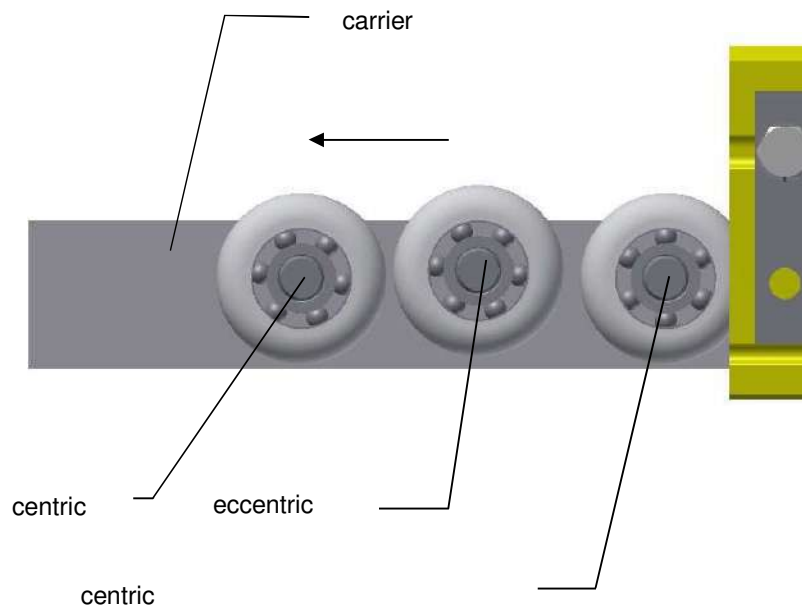

Figure 15: Carrier assy.
- 4) Move the carriers (Figure 15) to the free end of the guide tube and remove it through the opening of the profile.